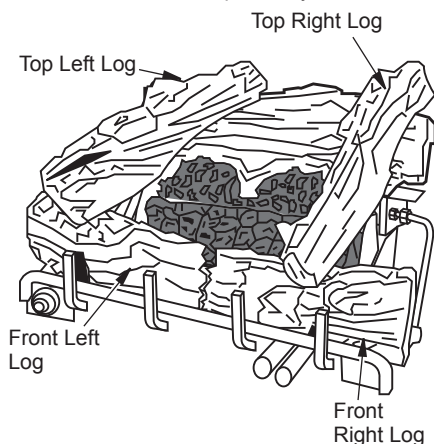

Figure 25 - Installing Logs
4. Place top left log as shown in Figure 25. The bottom of the log is shaped to fit onto the recessed areas of the front left log and the rear log. The recessed areas are painted yellow.
5. Place top right log as shown in Figure 25. The bottom of the log is shaped to fit onto the recessed areas of the front right log and the rear log. The recessed areas are painted yellow.